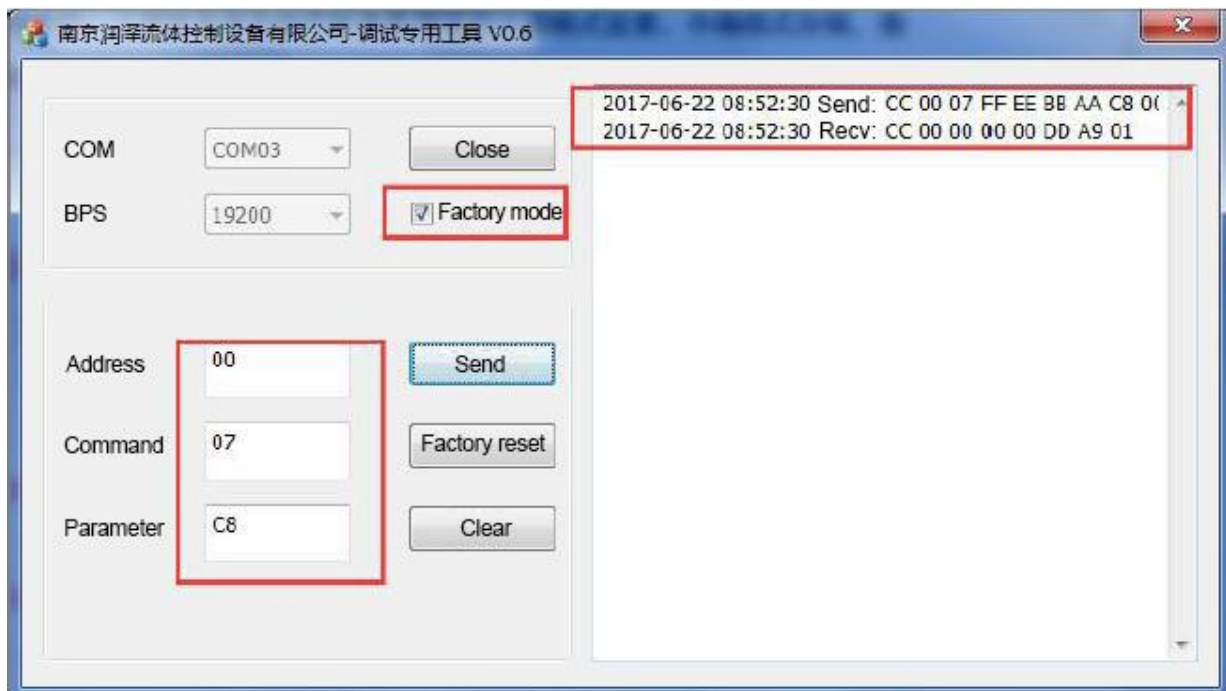

Figure 1
1. Check out “factory command” as Figure 1
2. Input "00" into "Address" (default 00, if address has been changed then input new address); Input speed setting code "07" into "Command"; Input target speed "C8" into "Parameter"; Click "send", if received commands as Figure 1, it is correct settings. (Parameters must be hexadecimal)